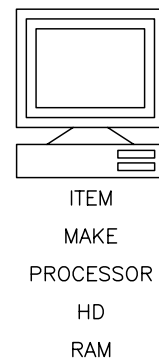

Figure 16-7 Attributes defined below the computer drawing
8. Similarly, define the remaining attributes also, refer to Figure 16-7.